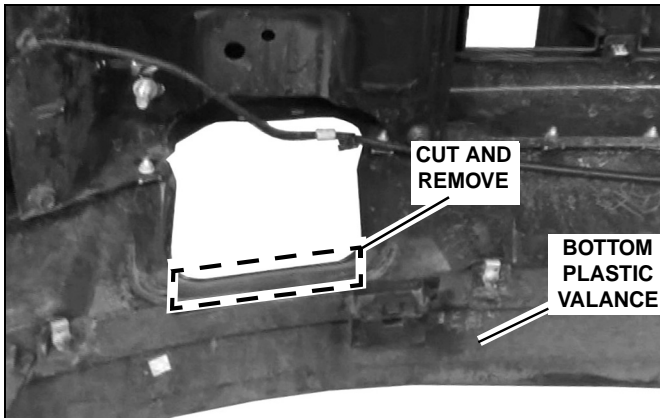

Figure 6
2. Unscrew and remove the bottom plastic valance from the bumper. Keep the bottom valance for re-installation if the Mount Kit is removed. Then cut and remove the narrow lip of the plastic portion of the bumper directly below where the tow hooks protruded from. (See Figure 6.)